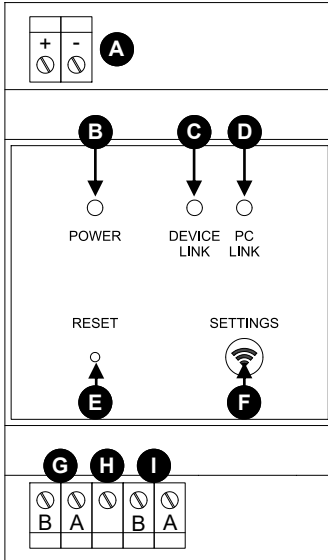

Fig. 1: External aspect and features of the product
- **Power** (ⓑ of Fig. 1). The Led is on when the device is powered. If the LED is off, the device is not powered.
- **Device link** (Ⓒ of Fig. 1): communication status towards the devices (RS485) on the same network made by
- **PC link** (Ⓓ Fig. 1): communication status towards dedicated PC/PLC output. It can be of the following colors: